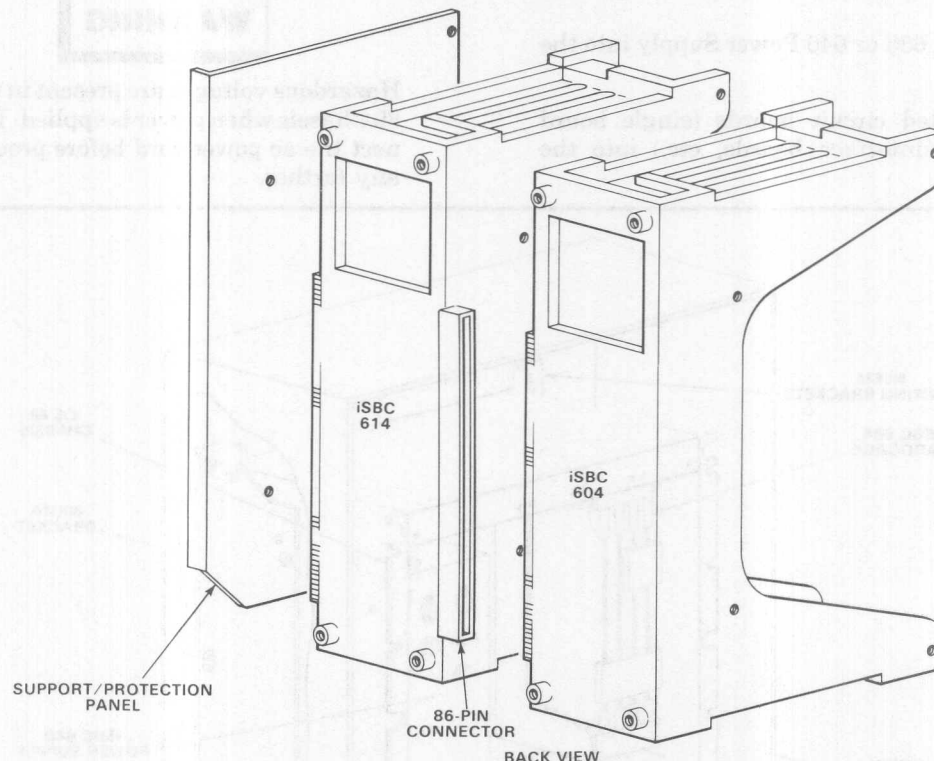

Figure 2-4. iSBC 604/614 Cardcage Connection
- 5) From the top, insert the additional iSBC 614 Cardcage Assembly into the chassis and align it with the first cardcage. Seat the 86-pin plug (on the iSBC 604 Cardcage Assembly) into the 86-pin socket (on the iSBC 614 Cardcage Assembly). Figure 2-4 shows the connectors on the back of the cardcages.